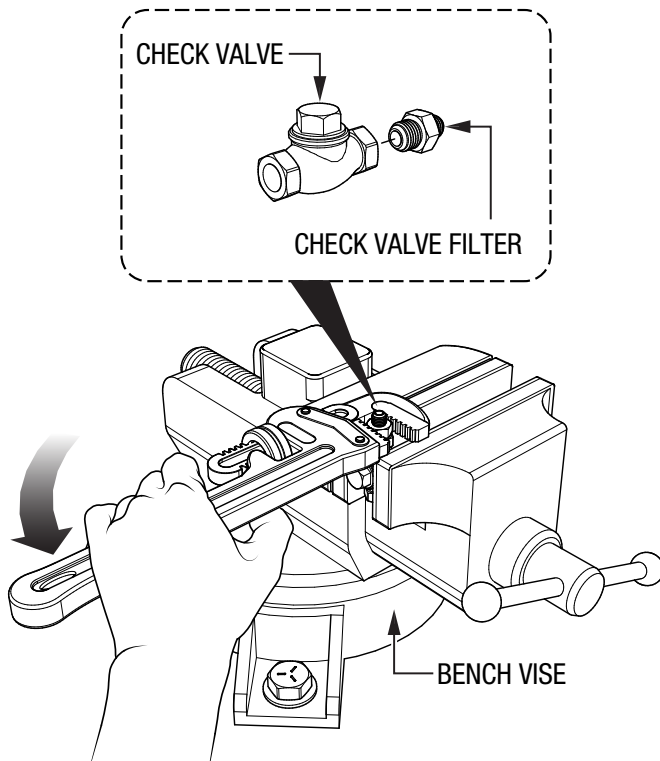

Figure 11. Check Valve Filter Removal
5. Place the check valve in a bench vise and remove the check valve filter (Figure 11).